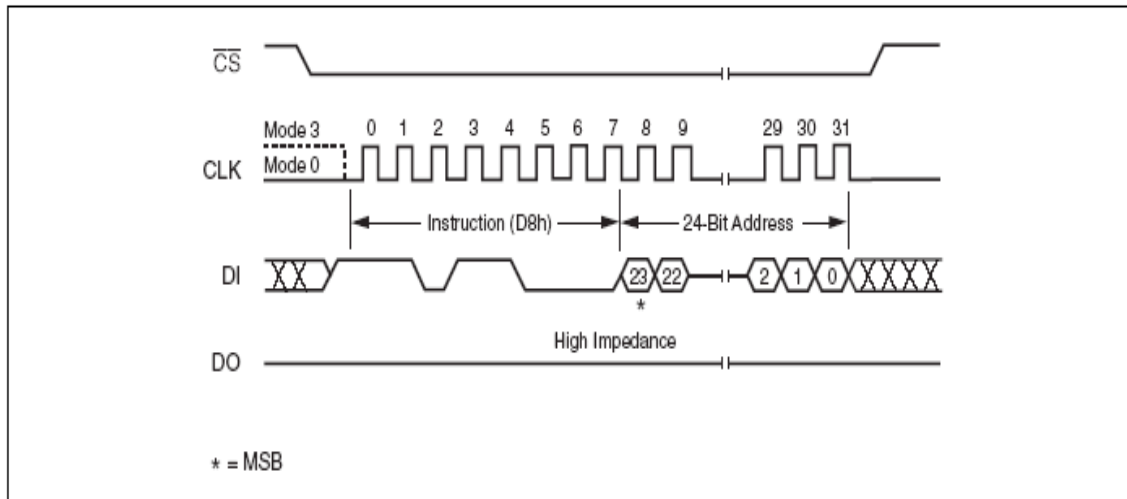

Figure 12. Sector Erase Instruction Sequence Diagram
The instruction sequence is shown in Figure 12.. Chip Select (CS#) must be driven High after the eighth bit of the last address byte has been latched in, otherwise the Sector Erase (SE) instruction is not